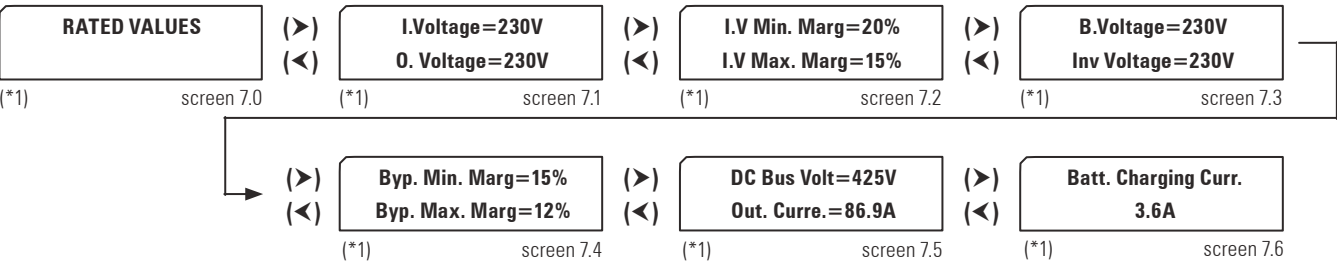

Fig. 50. Screen 7.0 «Nominal values» and its submenus.
7.3.7. "CONFIGURATION" level (menu screen 6.0). See Fig 50.
7.3.8. Nominal values screens (menu screen 7.0). See Fig 50.